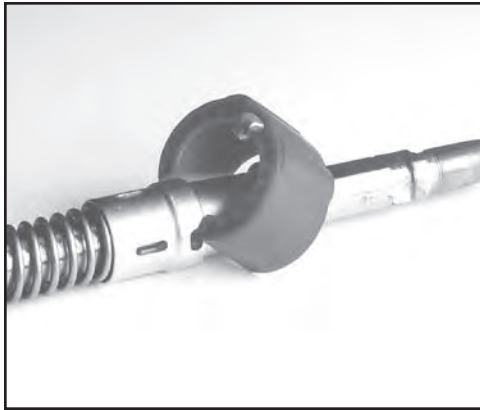

FIG. 41: REMOVE EXHAUST RING
3. Remove exhaust ring and inspect for damage or wear (see Fig. 41).